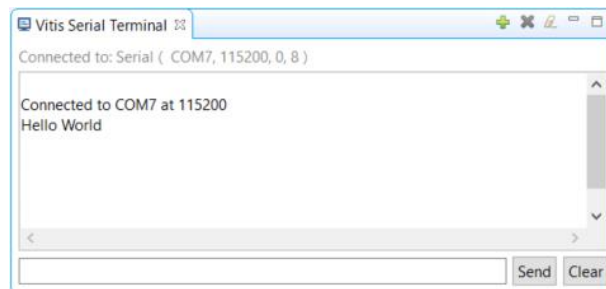

Figure 28
10. Check the **Vitis Serial Terminal** (Figure 28)